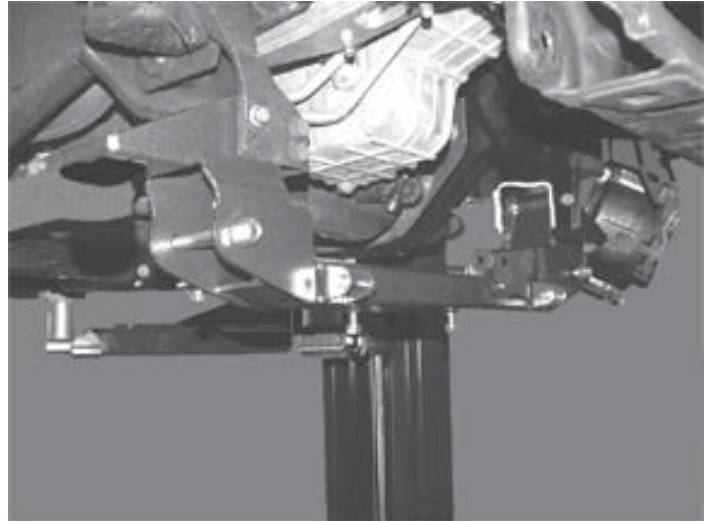

Fig. 12
1. Install rear crossmember (202004) into existing rear lower control arm mounting pockets, use existing OE hardware previously removed. Make sure bolt heads are facing to the front of vehicle (**Fig. 12**). **Do not tighten at this time.**